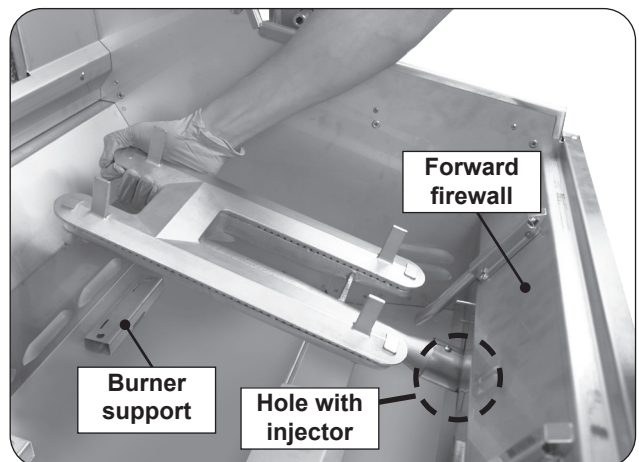

Fig. 38-2 Remove burners
3. Carefully lift the burner from the burner support and out from the hole in the forward fire wall. See Fig. 38-2.